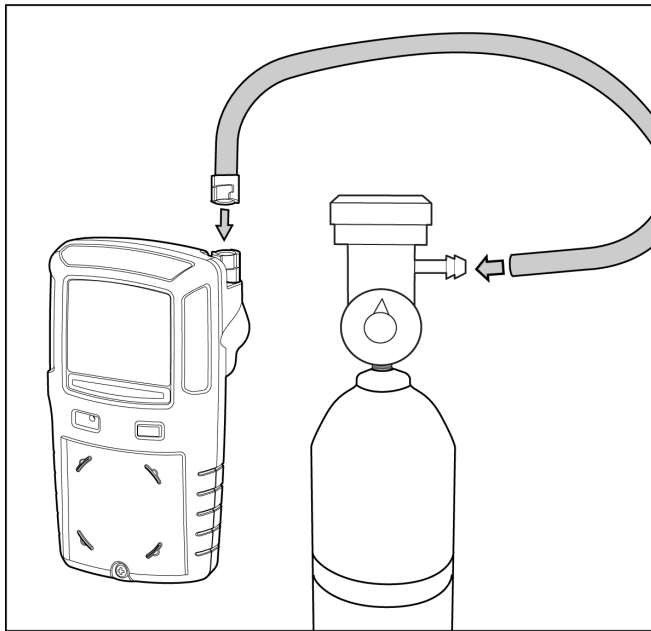

Figure 6. Connecting the Gas Cylinder to the Detector
Refer to the following procedures and Figure 6 to connect the gas cylinder to the detector for calibration.
5. Connect the calibration hose to the regulator on the gas cylinder (Figure 6).